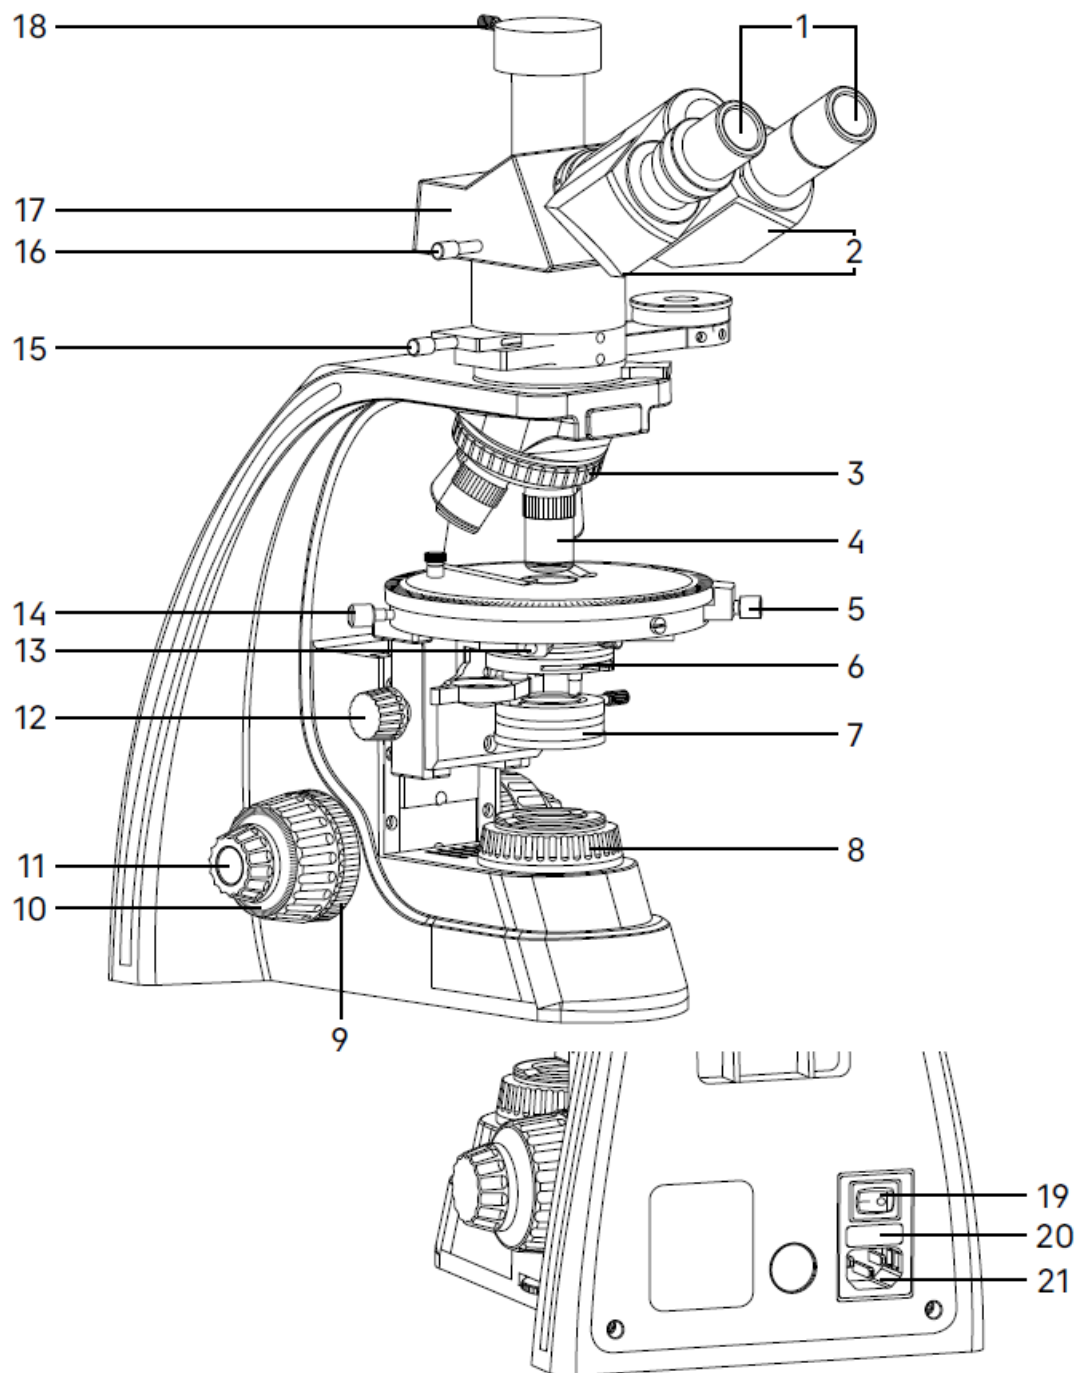
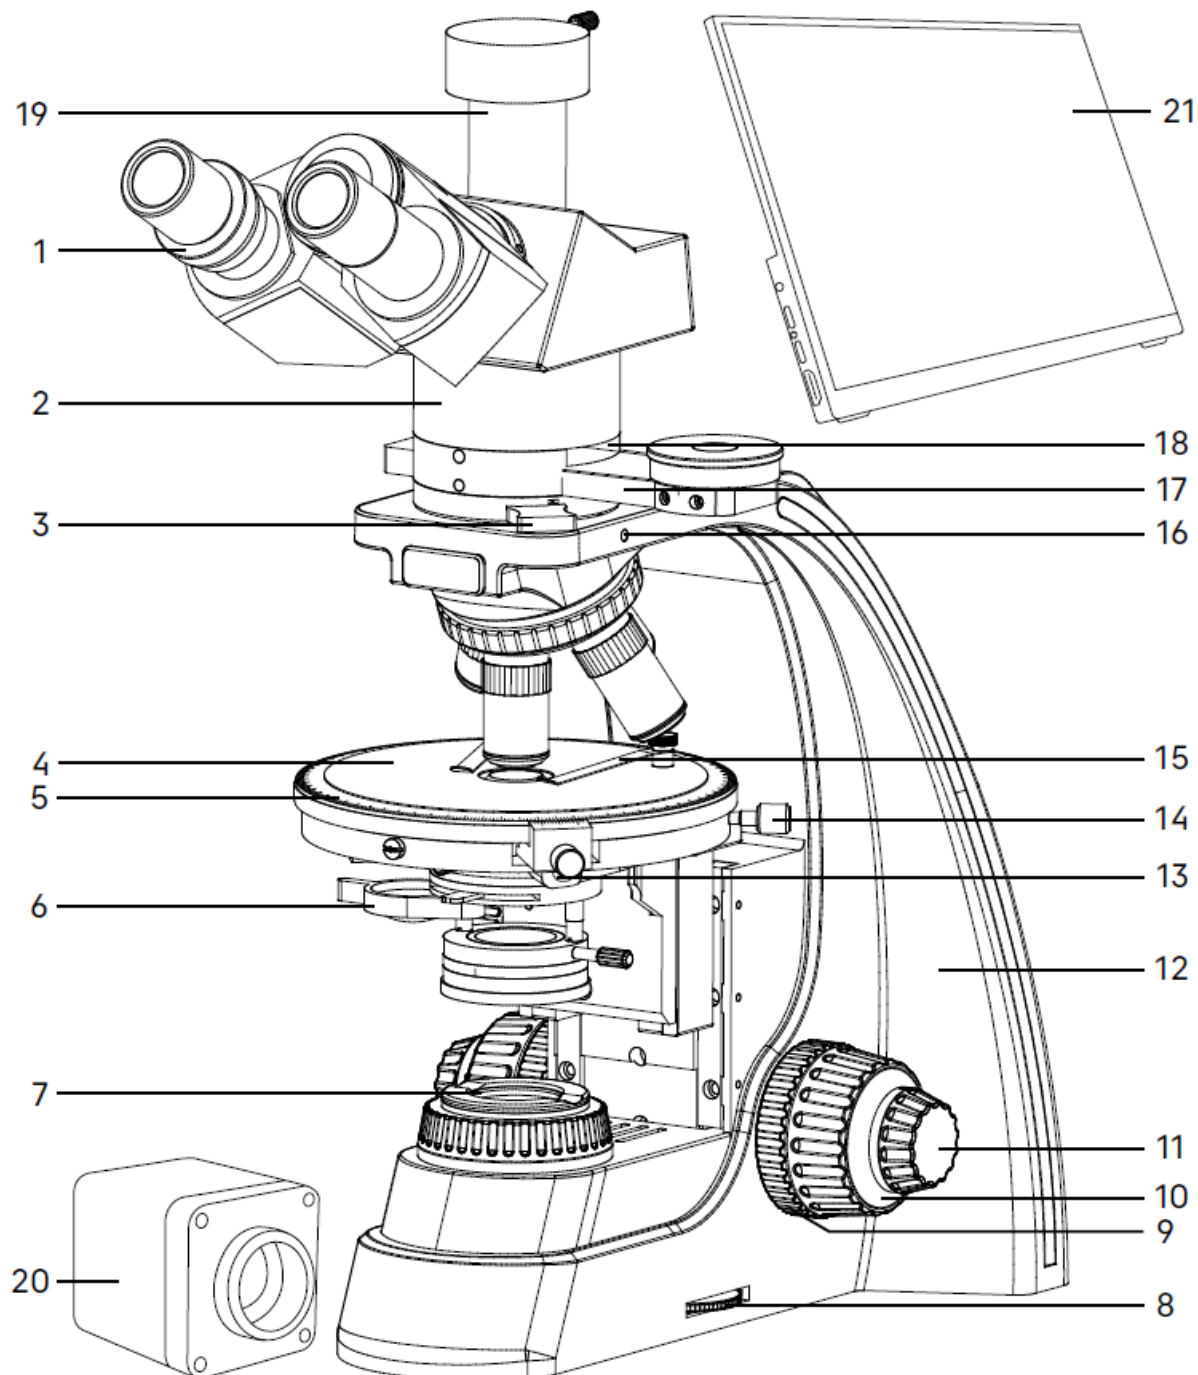

Fig. 1. MAGUS Pol D800 LCD Microscope. View from the left
Fig. 2. MAGUS Pol D800 LCD Microscope. View from the right
See Section 7 of the User manual for full kit contents. The general view of the microscope is given in Fig. 1 and 2.
Stand 12 (Fig. 2) has a stable ergonomic design. Parts attached to the stand:
- revolving nosepiece 3 (Fig. 1) with objectives 4 (Fig. 1)
- stage 4 (Fig. 2)
- condenser mount (not shown in Fig. 1 and 2)
- collector 8 (Fig. 1).
The back panel of the microscope stand contains an ON/OFF switch 19 (Fig. 1), fuse holder 20 (Fig. 1), and a connector for the AC power cord 21 (Fig. 1), which connects the microscope to an AC outlet. There is a brightness adjustment ring 8 (Fig. 2) on the right of the stand.
The focusing mechanism is located inside the microscope stand. The mechanism has a coaxial design: coarse and fine focusing knobs, coarse focusing tension adjusting knobs, and coarse focusing lock knobs are mounted on the same axis. Focusing on the specimen is achieved by adjusting the height of the stage. Coarse focusing is performed by rotating the coaxial knobs 10 (Fig. 1, 2) on both sides of the microscope stand. Fine focusing is performed by rotating the knobs 11 (Fig. 1, 2) on both sides of the microscope stand. Fine focusing allows for more precise focusing on the specimen and re-focusing the microscope to get an accurate image resolution when changing objectives and specimens. Fine focusing scale value: 2 $\mu$ m. The coarse focusing tension adjustment is performed by the ring 9 (Fig. 2) between the stand and the coarse focusing knob on the right side. The ring adjusts the coarse focusing tension so that the tension is convenient for the user, but the revolving nosepiece with objectives does not lower spontaneously during operation. The coarse focusing lock knob 9 (Fig. 1) is located on
The trinocular head 17 (Fig. 1) provides the visual observation of the specimen image. The microscope head is installed in the slot of the intermediate attachment. The interpupillary distance is adjusted by rotating the eyepiece tubes in the range of 48–75mm. The distance between the eyepieces matching the observer's interpupillary distance is marked on the adjustment scale.
- An imaging system with a monitor is installed in the trinocular tube 19 (Fig. 2) using a C-mount adapter. You can switch the light path to the trinocular tube using lever 16 (Fig. 1). The lever has two **positions:** 100/0 and 0/100.
The revolving nosepiece 4 (Fig. 2) allows for the installation of five objectives. The free slot is used to adjust the bulb position in the reflected light illuminator and install an additional objective. Objectives are changed by rotating the knurled ring of the revolving nosepiece until the objective fits into place.